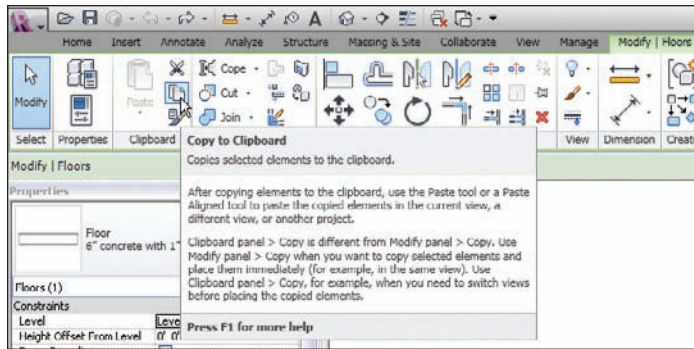

FIGURE 6.29 Clicking the Copy To Clipboard button
2. On the Modify | Floors tab, click the Copy To Clipboard button on the Clipboard panel, as shown in Figure 6.29.